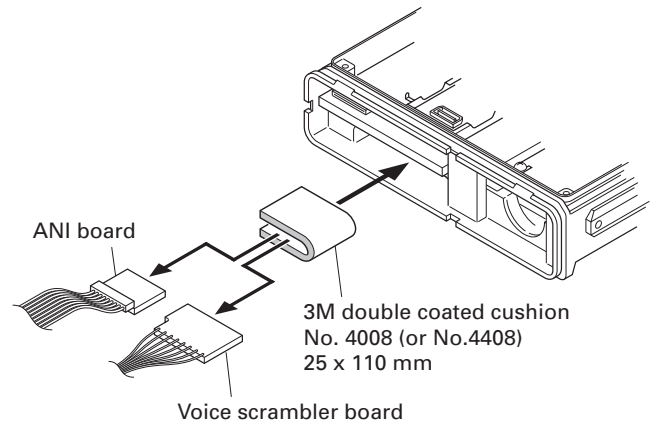

Fig. 7-2
3. Wrap the scrambler board in a cushion and install it on the front of the chassis as shown in Figure 7-2.